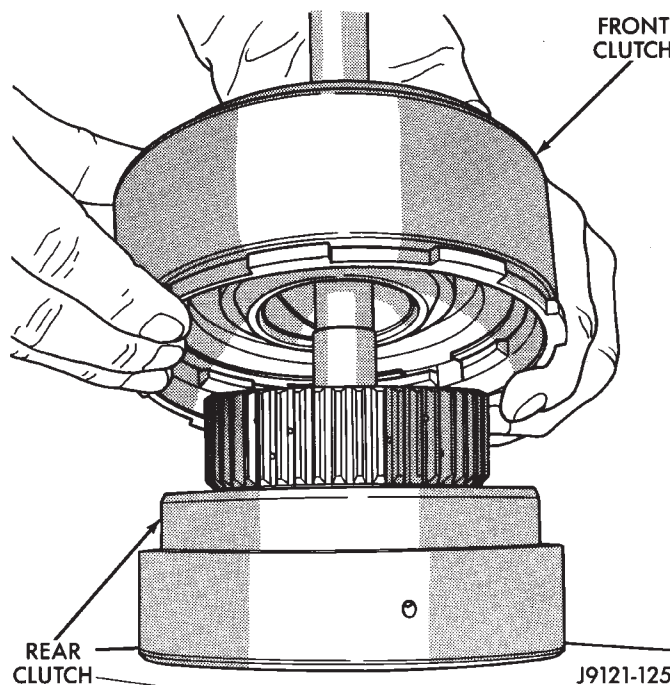

Fig. 140 Separating Front/Rear Clutch Assemblies
(30) Lift front clutch off rear clutch (Fig. 140). Set clutch units aside for overhaul.